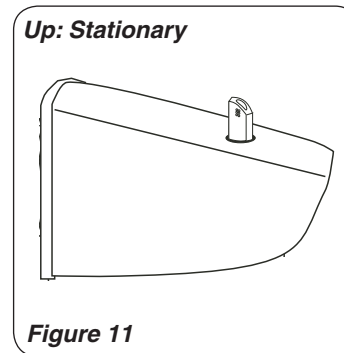

Figure 11
5. **OSCILLATION:** Push down oscillation knob on motor housing to make fan head move from side to side. (**Figures 11 and 12**)